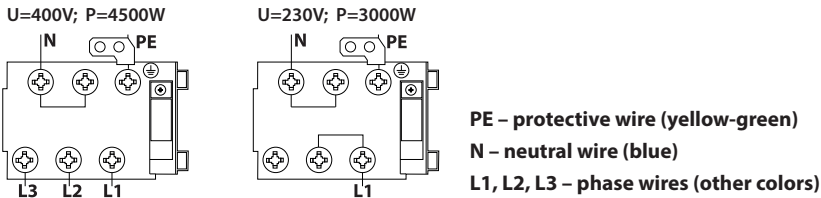

Fig. 2 - Label with connecting diagram
- Manual devices (801505, 801506, 801507, 801515, 801516, 801517) that are designed for connection of the power supply to the terminal box, can be connected in two ways in accordance with the diagram placed on the label (fig. 2) located on the back of the device. A standard connection is made for a 400V power supply. The type of the cord is given in table in point 3.